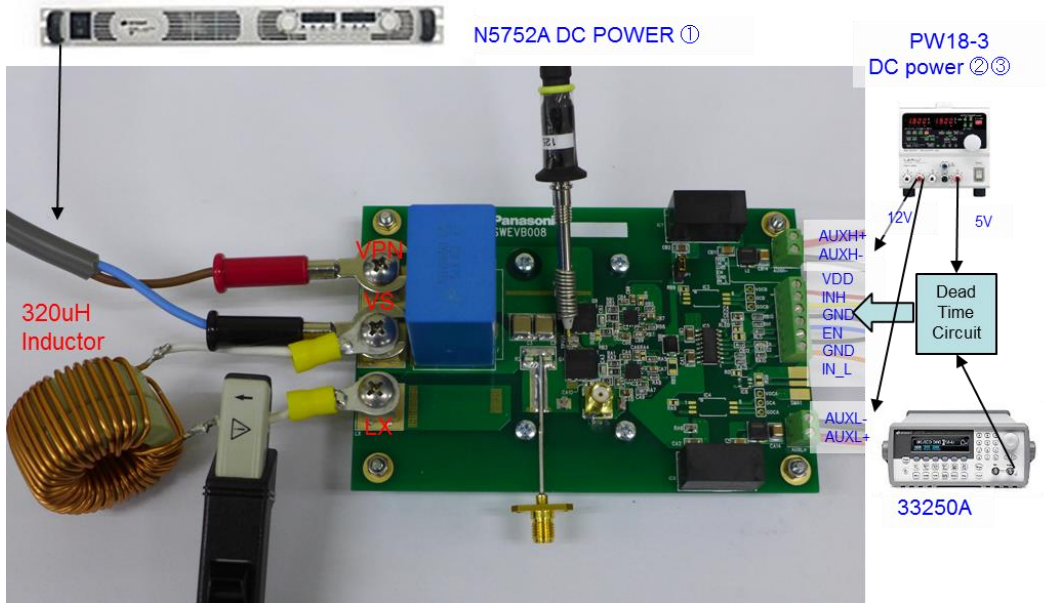
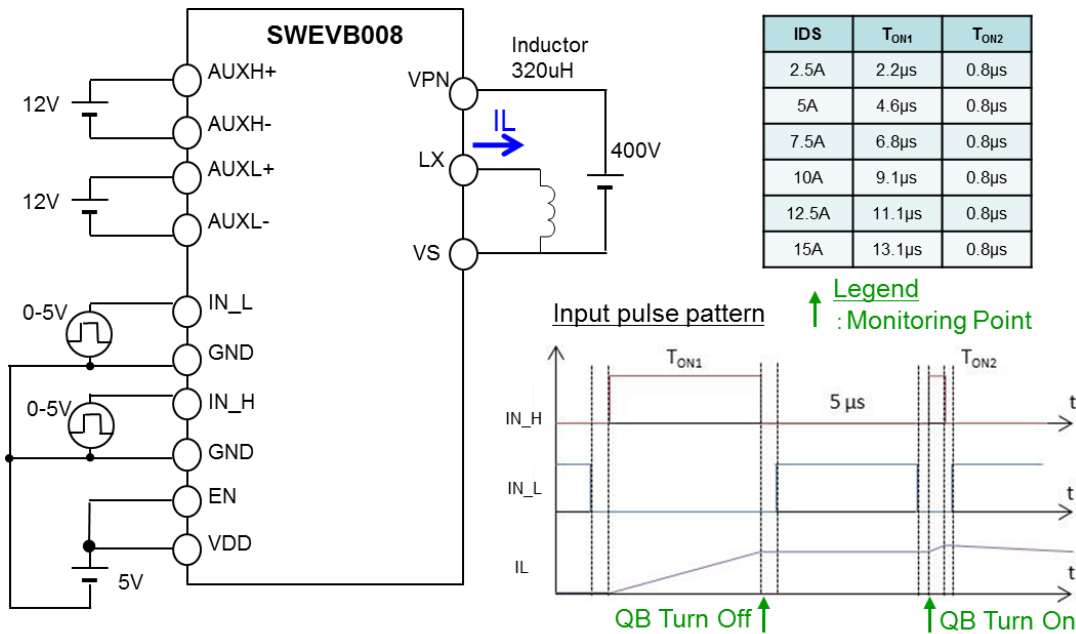

Figure 23: Connection for High side GaN test
Figure 24: Evaluation schematic for High side GaN test
Figure 23 shows all the necessary connections for High Side GaN device (QB) dV/dT testing. Figure 24 shows the evaluation test circuit. Please refer to pages 15-16 for evaluation procedures.